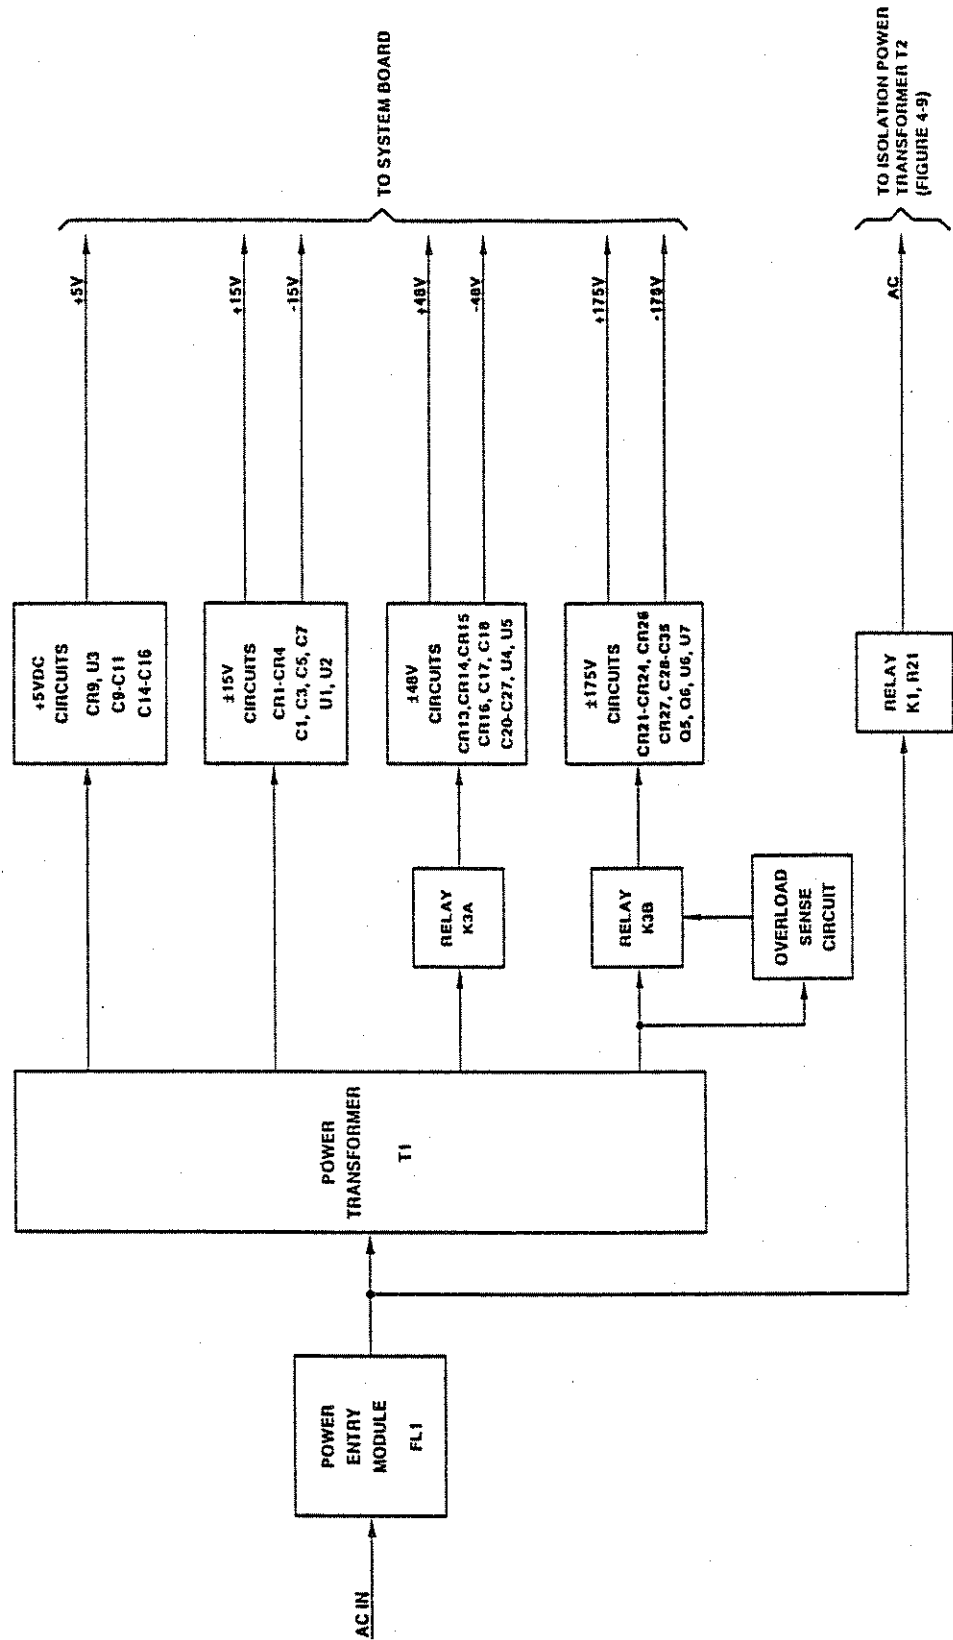

Figure 4-8. Main Power Supply Board, Block Diagram
4.4.5 MAIN POWER SUPPLY BOARD (Figure 4-8, 7-5)